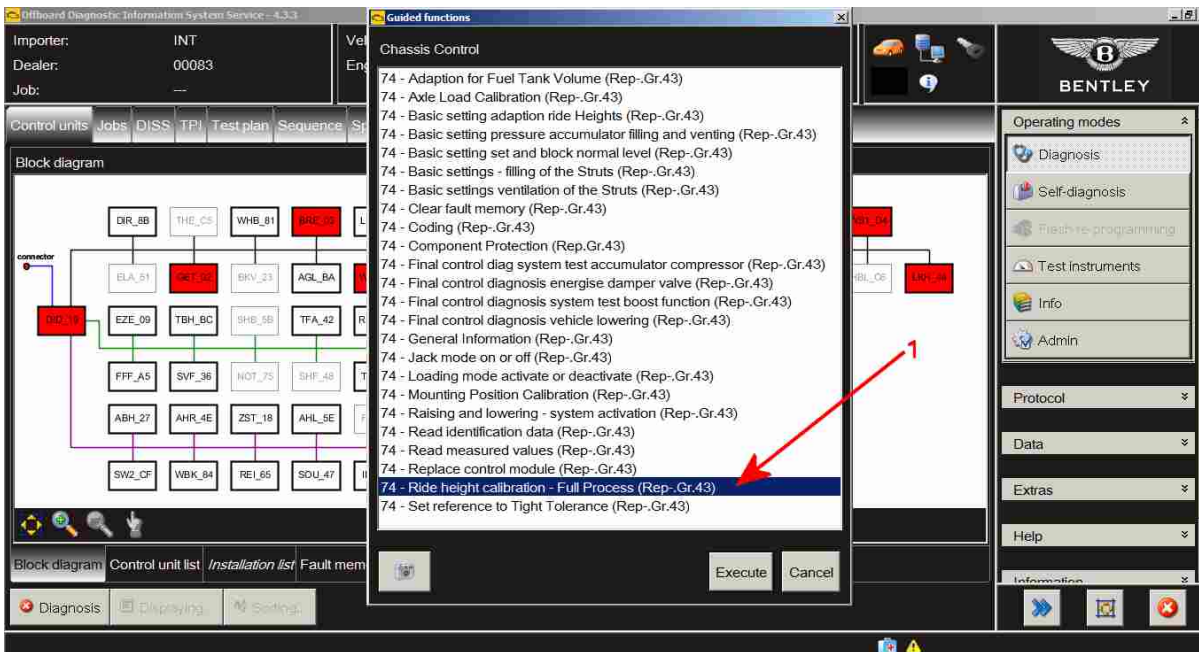

Figure 8
- Referring to Figure 8, Carry out the Ride height calibration – Full Process